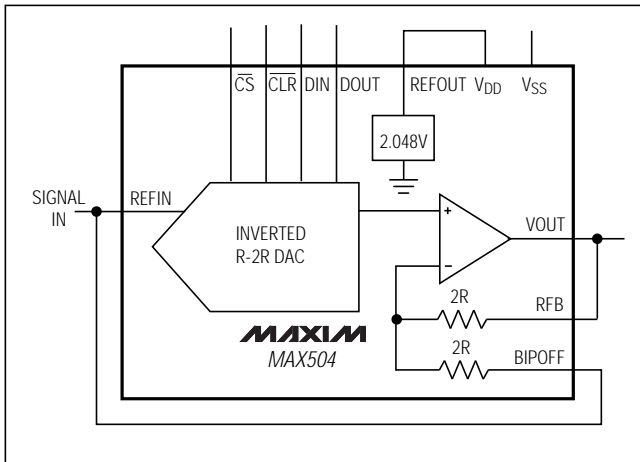

Figure 9. MAX504 Connected as Four-Quadrant Multiplier. The unused REFOUT is connected to VDD.
The MAX504 can be used as a four-quadrant multiplier by connecting BIPOFF to REFIN and RFB to VOUT, and using (1) an offset binary digital code, (2) bipolar power supplies, and (3) a bipolar analog input at REFIN within the range  $V_{SS} + 2V$  to  $V_{DD} - 2V$ , as shown in Figure 9.